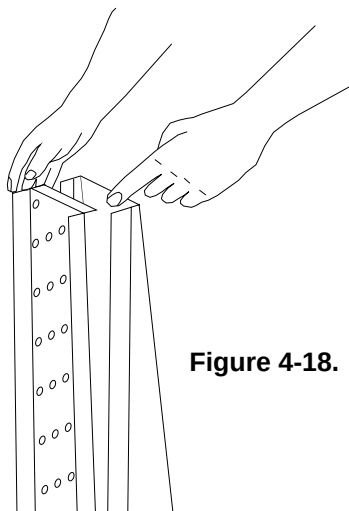

Figure 4-18.
- f. Reassemble the inner plate, keep your fingers clear so you won't pinch them. The inner plate of a finger will only go on in one way because of its design. Refer to Figure 4-18.